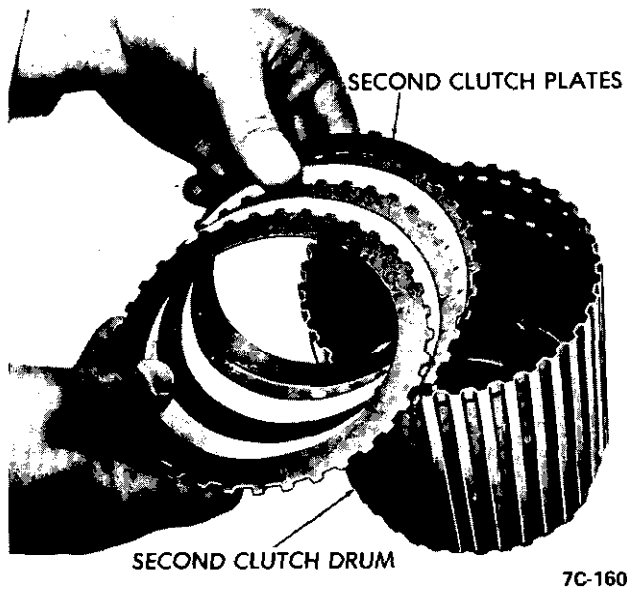

Figure 7C-166
23. Install second clutch plates into second clutch drum with cushion plate (wave washer) first, then steel plate, composition plate, steel plate, etc. Use liberal amount of transmission fluid. See Figure 7C-166.
24. Install second clutch spacer plate into second clutch drum. If necessary, expand spacer plate with screw driver until ends of spacer are evenly butted together seating tightly into drum. See Figure 7C-159.